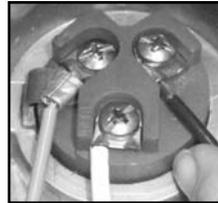

Figure 1
3. Strip supply conductors to 0.5 inch (13 mm). Loosen terminal screws and slip wire under terminal plate. (If desired, wire terminals may be used.) Connect the black wire to the unmarked brass screw. Connect the white wire to the brass screw marked WHITE (See Figure 1). Tighten all terminal screws to 15 lb.-in. (1.7 N·m) torque. Attach the supplied ground conductor and the system ground conductor to the ground connection in the back box.